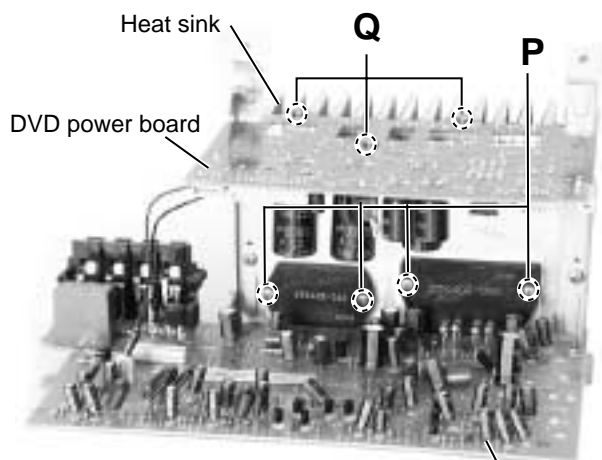

Fig.16
■Removing the power ICs and DVD power board (See Fig.16 to 18)